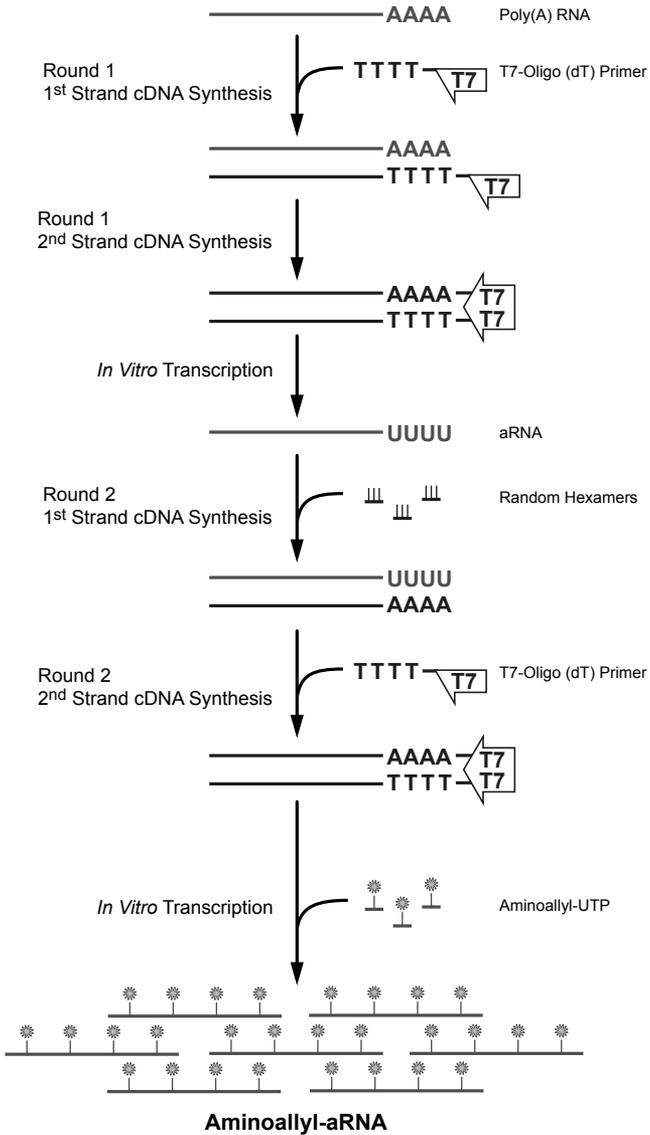

Figure 1. TargetAmp 2-Round Aminoallyl-aRNA Amplification Kit 1.0 Procedure.
The TargetAmp 2-Round Aminoallyl-aRNA Amplification Kit 1.0 utilizes an improved “Eberwine” procedure¹ for amplifying Poly(A) RNA from as little as 10 pg of total cellular RNA. The kit requires both SuperScript III and SuperScript II Reverse Transcriptases (Invitrogen; provided by the user). See Fig. 1.
- 1. Round-One, 1st-strand cDNA Synthesis:** The Poly(A) RNA component of a total RNA sample is reverse transcribed into first strand cDNA. The reaction is primed from a T7-Oligo(dT) primer...a synthetic oligo(dT) primer containing a phage T7 RNA Polymerase promoter sequence at its 5' end. Round-one, 1st-strand cDNA synthesis is catalyzed by SuperScript III Reverse Transcriptase (provided by the user) and performed at an elevated temperature to reduce RNA secondary structure.